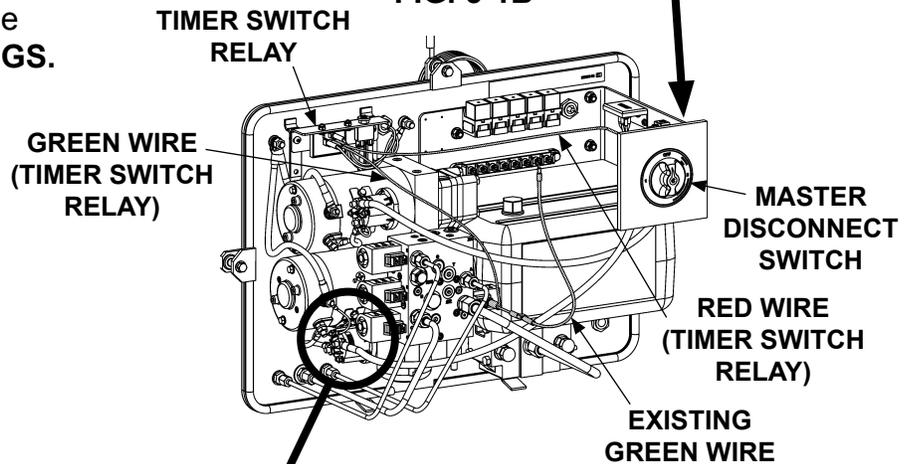

FIG. 5-1
7. Connect green wire from timer switch relay to valve B on the pump (FIGS. 5-1 and 5-1A). Then, connect existing green wire to the male terminal on the wire pigtail (FIGS. 5-1 and 5-1A).
8. Connect red wire from timer switch relay to the output post on the master disconnect switch (FIGS. 5-1 and 5-1B).